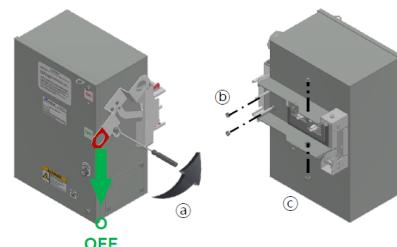

Figure 20. Fusible Plug-in unit Pre-installation
(Figure 20, 21)
(Figure 20, 21 a)
(Figure 20, 21 b)
5. Remove two fixed bolts. (Figure 20, c)